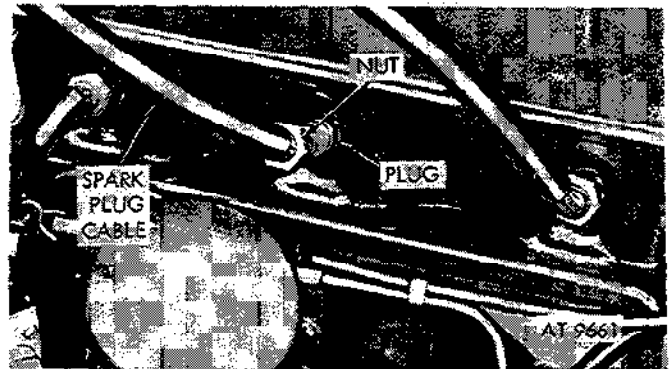
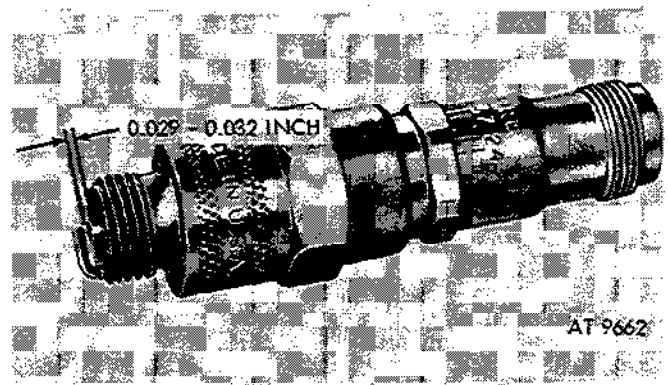

Figure 2-164. Remove spark plugs.
Figure 2-165. Adjust spark plug gap.
(1) Disconnect terminal nuts securing spark plug cable to spark plugs (fig. 2-164).
(2) Remove all dirt from cylinder head recess around spark plugs.
(3) Use a deep socket wrench and remove spark plugs (fig. 2-165). Discard spark plug gaskets.
(4) Clean spark plugs (fig. 2-165) on a spark plug cleaner and tester. Adjust gap to 0.027 to 0.030 in.
(5) Disconnect terminal nuts between spark plug cables and distributor. Remove cables.
b. *Installation.* Install spark plugs and spark plug cables by reversing removal operations. Refer to figures 2-164 and 2-165. Use new spark plug gaskets for installation. Torque spark plugs to 18-20 lb. ft.